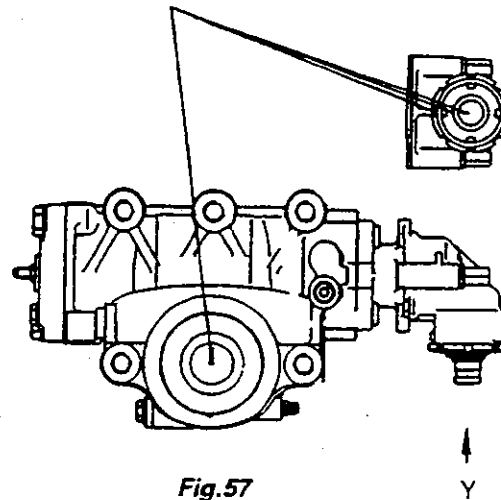

Fig.57
19.3.3 Check that the markings for the straight-ahead position are present as shown in *Fig.57*.